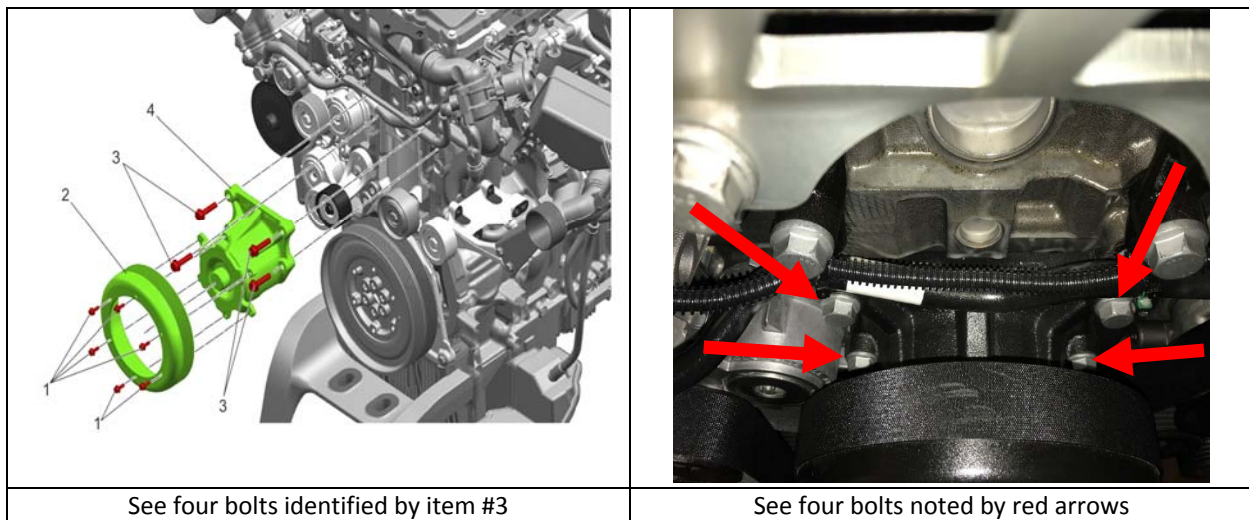

Figure 1 – Fan Hub Mounting Bolt Location
2. Remove the fan hub pulley. **REFERENCE** chapter “Belt Drive” and section “Removal of the Fan Hub Pulley” in the *GHG17 DD5 934912(C) Workshop Manual* (DDC-SVC-MAN-0194).
3. Inspect the four fan hub mounting bolts to see if they are all present. See Figure 1, and note the fan hub pulley is also pictured. Are all four fan hub mounting bolts present?